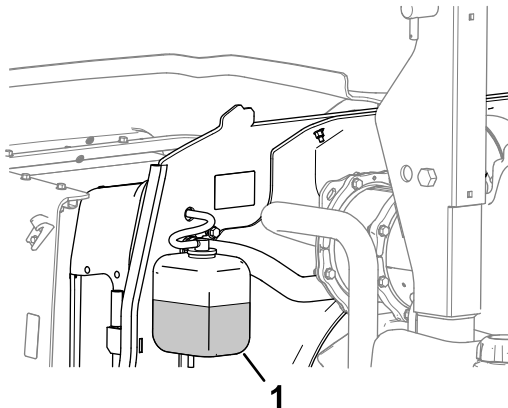

Figure 67
1. Check the level of coolant in the expansion tank (Figure 67).